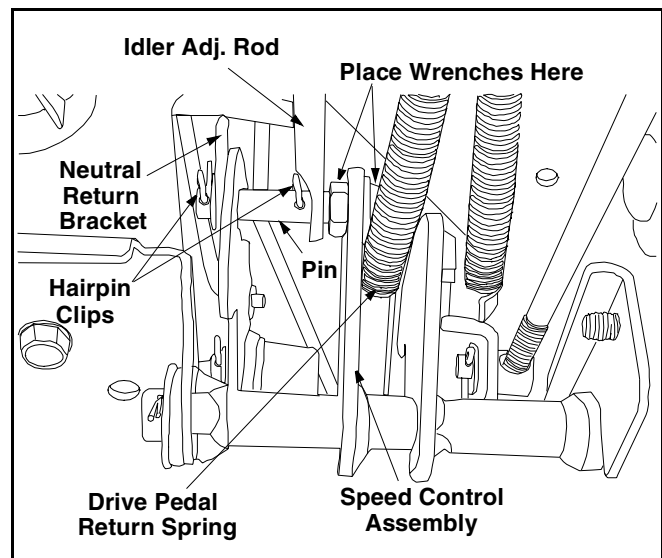

Figure 18
- Remove both hairpin clips from the pin which is fastened to the speed control assembly (be careful not to lose the small flat washers found on the pin). See Figure 18.
- Using two 9/16" wrenches, remove the pin from the speed control assembly. See Figure 18.